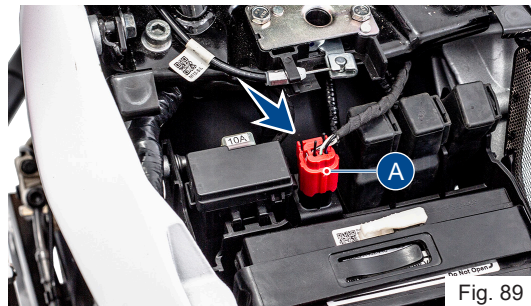

Fig. 89
- Gently pull out connector along with its cap from its location by releasing the lock (A) (**ref. Fig. 89**).